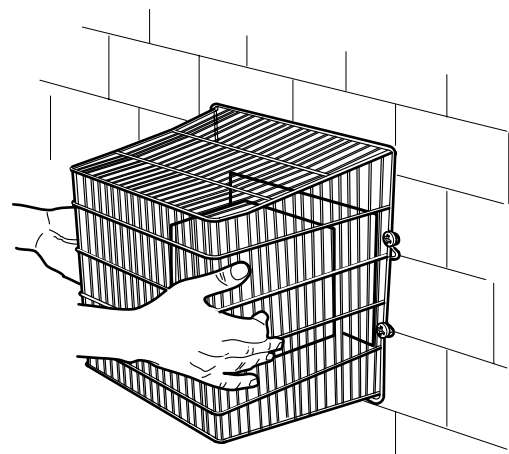

Fig. 29
- 15 Fit the terminal guard over the flue terminal and secure using the screws and plugs supplied. See Fig. 29.